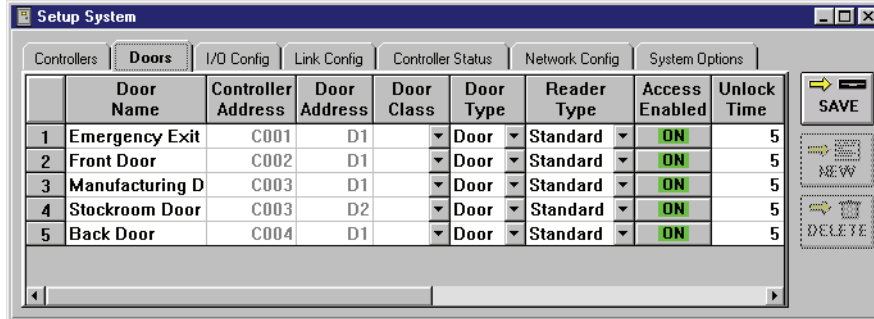

Figure 3-20: Naming Doors
5. Scroll through the remaining doors available and give each a descriptive name. The resulting window should look similar to Figure 3-20 on page 27 of this section.
1. To assign a door class, click on the Setup ⇒ System pull-down menu or click on the  tool bar button. Then click on the **Doors** tab (see Figure 3-20 on page 27 of this section).